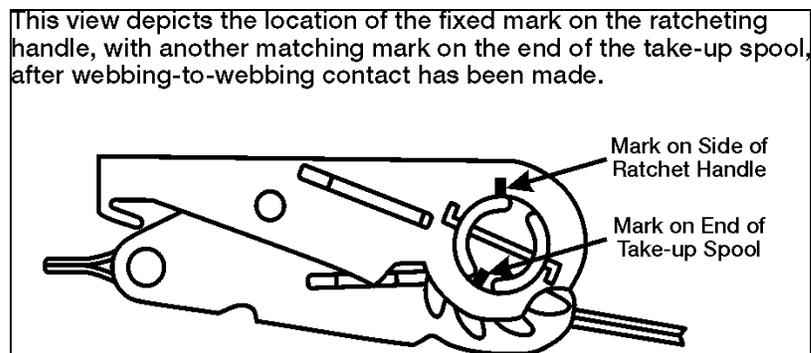

Figure 3-55b. Locking Latches
- (3) After tensioning is completed, the takeup spool-locking latch must be checked to ensure that it is fully seated at both ends of the spool in the matching locking notches (see Figure 3-55b). The scuff sleeve may have to be removed to allow tightening of tiedowns. Secure loose ends of straps by suitable means.
- (4) Reinforce sharp edges of cargo with suitable materials to prevent both crushing edges of the load when strap is tensioned and to prevent slicing into strap webbing.